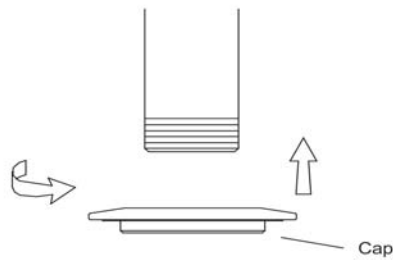

FIG.27
- E-3.** Drive a cap on the pipe. (FIG. 27)